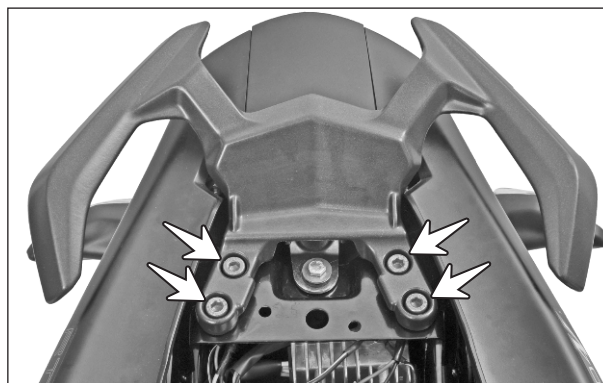

Fig. 2.23
- Remove the hexagonal socket cap screw (M8x25 - 4 nos.) from the mounting of pillion handle and take out the pillion handle. (Fig. 2.23)